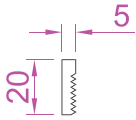

Fig. 17.10 Second example – UCS – pline for the bolt
14. In the **UCS X** view, construct one of the bolts as shown in Fig. 17.10, forming a solid of revolution from a pline. Then construct a head to the bolt and with **Union** add it to the screw.